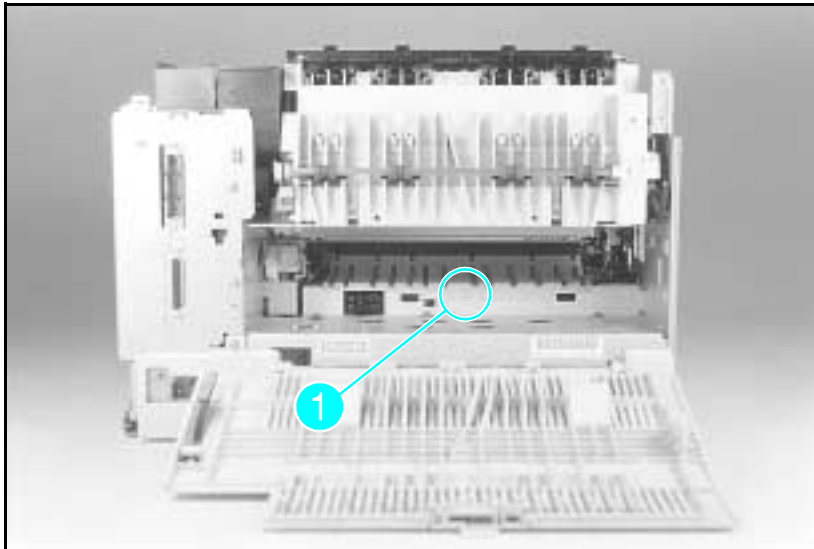

Figure 6-52 **Guide Plate Cover Screw**
- 1 Remove the (1) screw from the sheet metal Guide Plate Cover. (This screw is behind the Fuser Assembly, see Figure 6-52, callout 1).